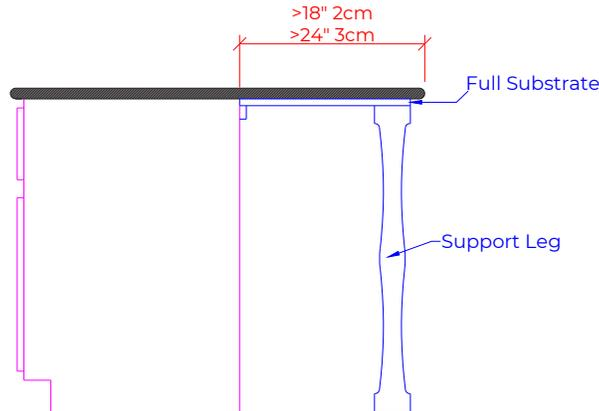

FIGURE 19
- e. Any overhang that exceeds 18" for 2cm and 24" for 3cm requires use of substrate and evenly spaced leg posts, installed at a maximum of every 36". See Figure 19.